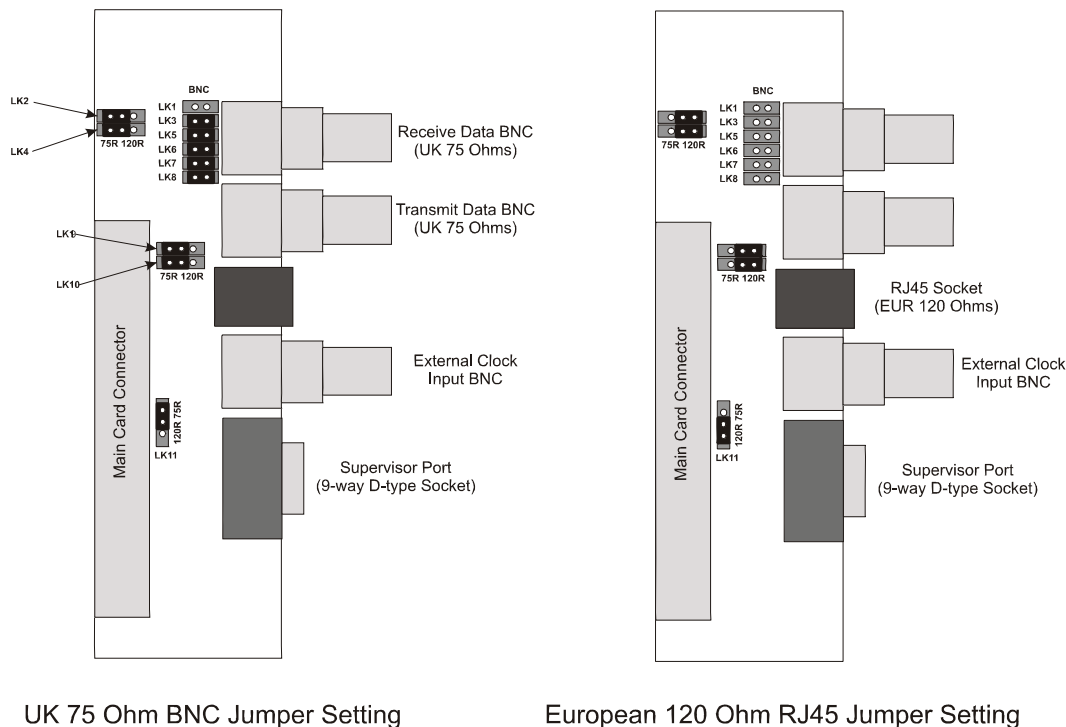

Figure 7
To ensure the correct termination resistance is applied, the two position links LK2, LK4, LK9, LK10, LK11 should be fitted to **75R** (UK) or **120R** (European) positions as appropriate – refer to Figure 7.